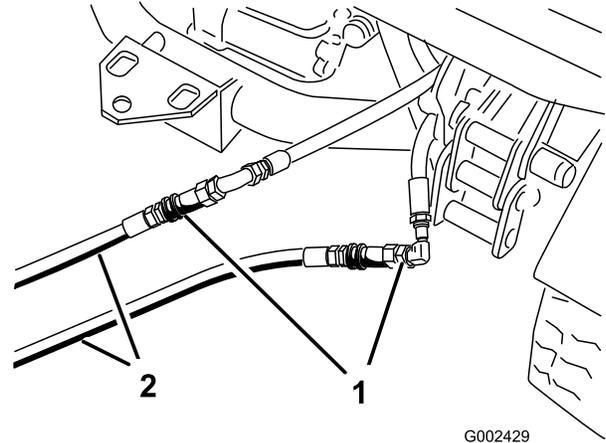

Figure 81
3. On the disabled vehicle, connect the two jumper hoses to the hoses that were disconnected (Figure 81). Cap the unused fittings.